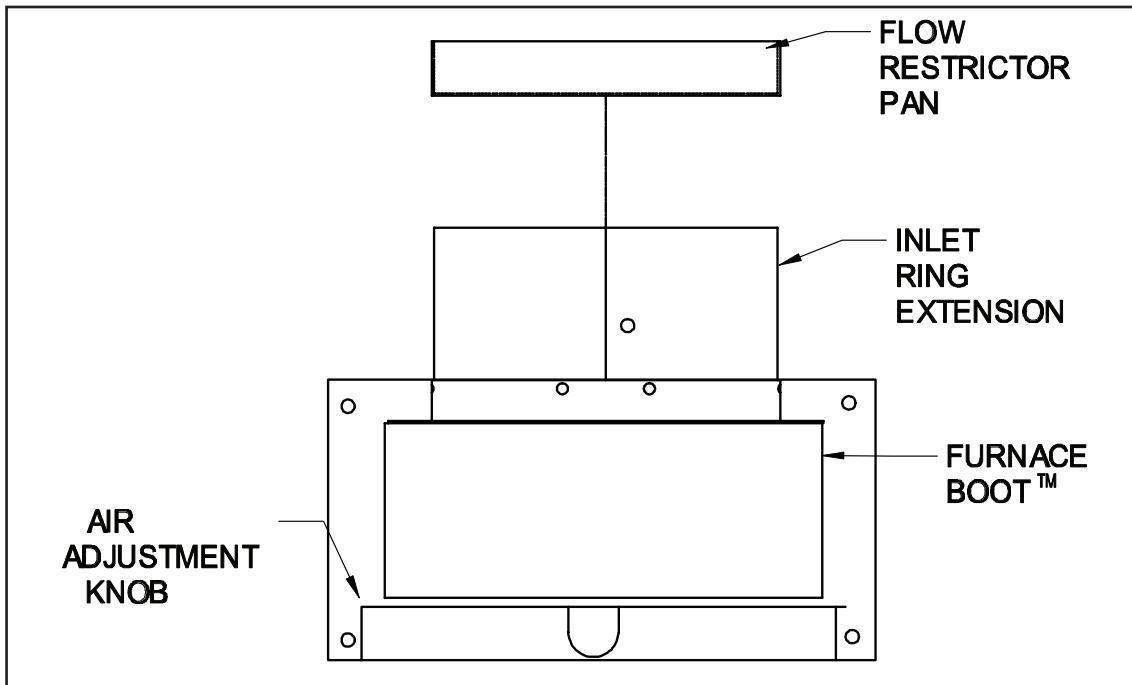

Figure 5
- a. Insert flow restrictor pan in the inlet collar with the flat of the pan inward. (See Figure 5)